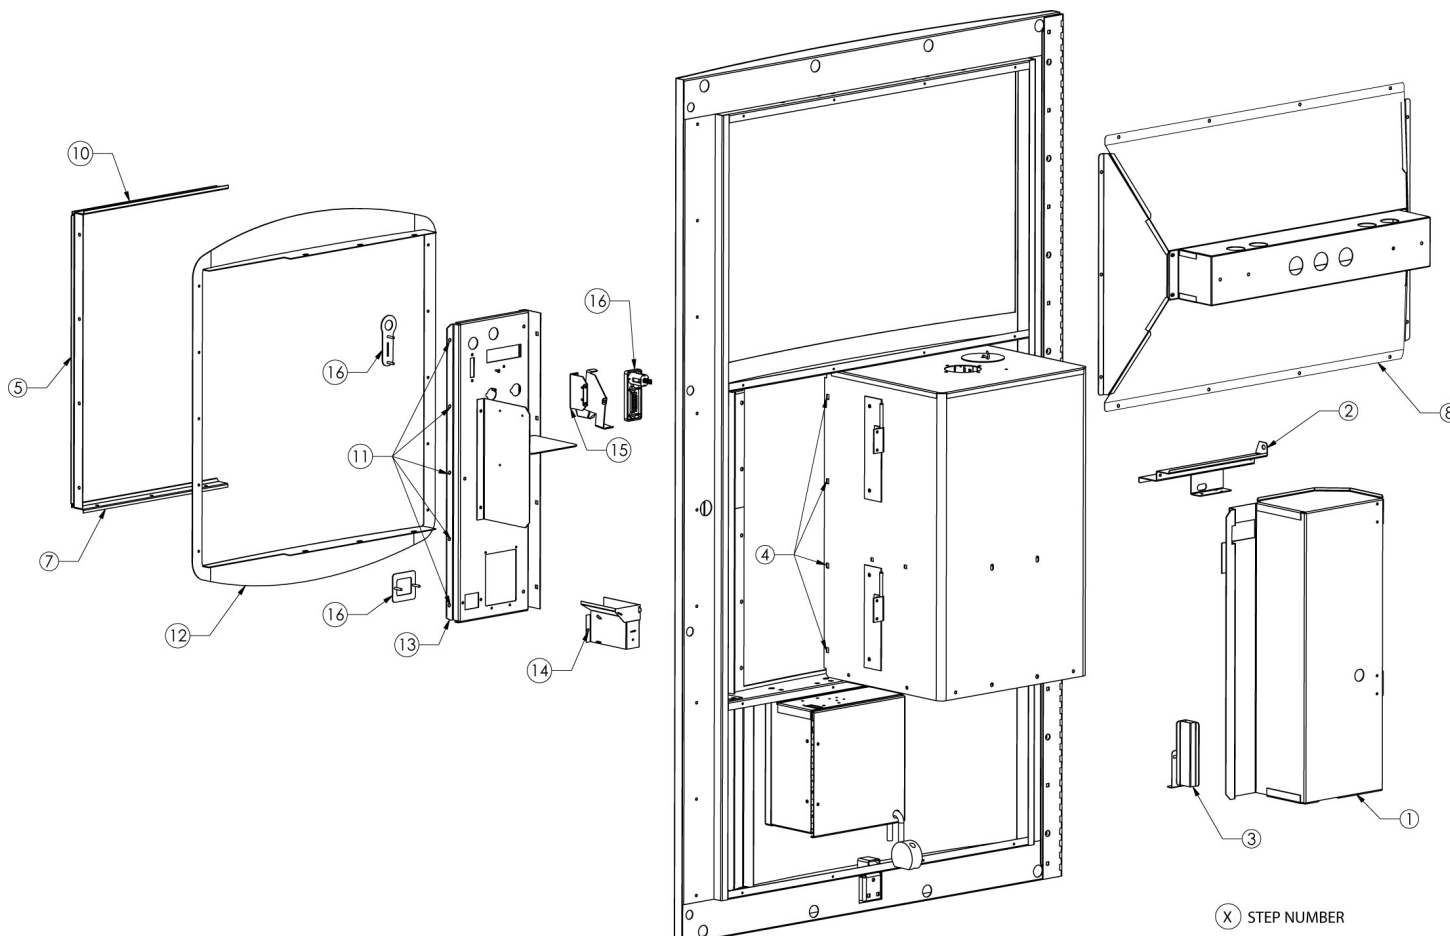

FIGURE 1
- Step #1** Remove coinage and cover assy – See Figure 1 & Pic 1.
- Step #2** Remove Dex bracket – See Figure 1 & Pic 2.
- Step #3** Remove coin bag chute assy – See Figure 1 & Pic 3.
- Step #4** Remove nuts from water station latch side – See Figure 1 & Pic 4.
- Step #5** Remove door seal – See Figure 1 & Pic 5.
- Step #6** Remove nuts from bottom of water station – See Figure 1 & Pic 6.
- Step #7** Remove bottom seal – See Figure 1.
- Step #8** Remove the reflector. – See Figure 1 & Pic 7.
- Step #9** Remove nuts from top of water station – See Figure 1 & Pic 8.
- Step #10** Remove top seal (note: place Philips screwdriver through hole to hold water station in place) – See Figure 1 & Pic 9/10.
- Step #11** Remove nuts securing panel – See Figure 1 & Pic 11.
- Step #12** Remove bezel – See Figure 1.
- Step #13** Remove control panel – See Figure 1 & Pic 12.
- Step #14** Remove coin return chute assembly – See Figure 1.
- Step #15** Remove coin insert assembly – See Figure 1.
- Step #16** Save the coin return bezel, coin insert bezel, and the coin insert plate– See Figure 1.